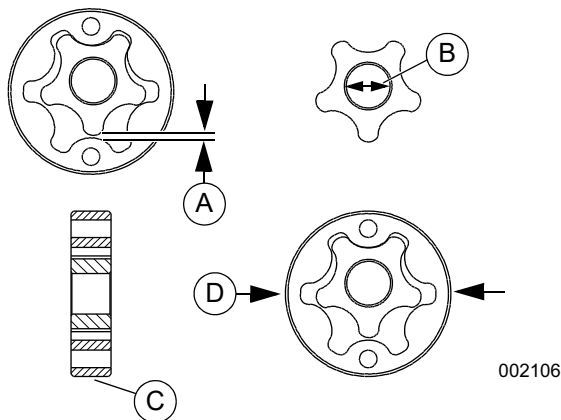

Figure 9-4. Inner and Outer Rotor Check Points
1. See Figure 9-4. Inspect the inner and outer rotors for damage and wear.